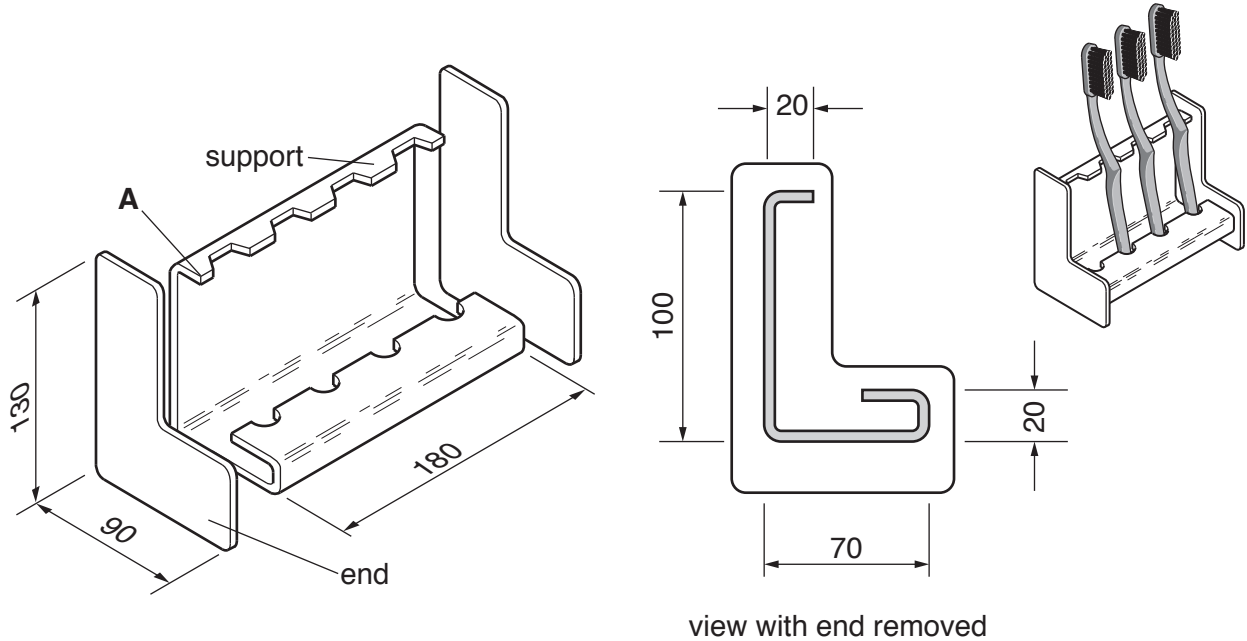
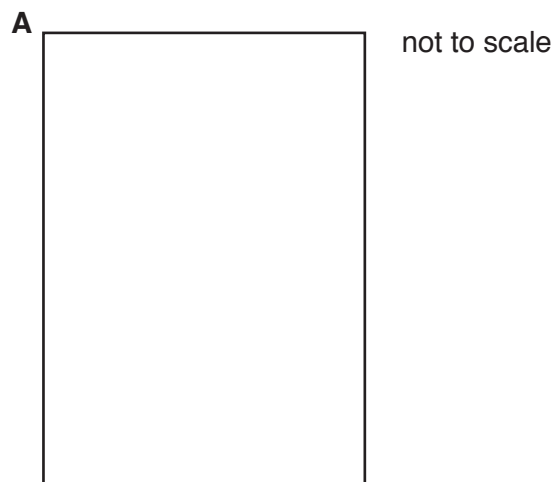

Fig. 9
Fig. 10
- 11 Fig. 9 shows views of a toothbrush holder made from 4 mm thick acrylic.
- (a) Fig. 10 shows a sheet of acrylic on which the development (net) of the support will be marked out. Corner **A** is shown in Figs. 9 and 10.
- (i) Draw on Fig. 10 to show **all** the bend lines. [4]